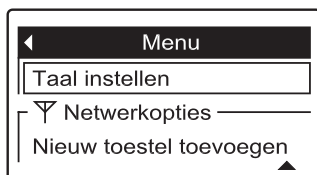

FIG. 104
From the rolling status screens, press SELECT (O). Press DOWN (▼) to scroll through the list until the line immediately **above** the antenna (Y) symbol is highlighted (See Figure 104), then press SELECT (O). Press UP (▲) to scroll to **English** at the top of the list, then press SELECT (O) twice. Press LEFT (◀) to exit the menu.